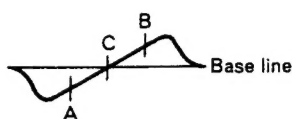

Fig. 2
2. Use the T202 core to form the S-curve shown in Figure 2. Adjust the symmetry of A and B about point C for linearity.